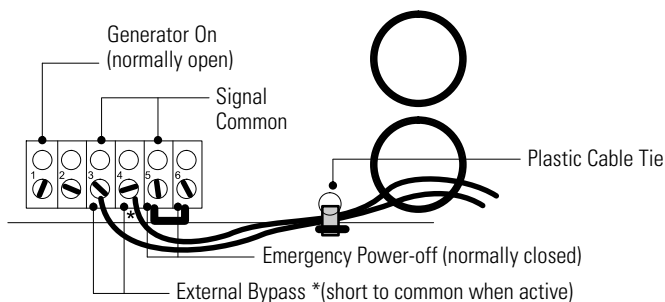

Figure 20. Input Control Signal Wiring (for MBB Bypass Switch)
13. If the bypass switch is an MBB style, notice the cable routed out of the left side of the bypass switch cabinet. Connect the red and black pair of wires (normally open) in this cable to terminals 3 and 4 as shown in Figure 20. (Do not connect the white and black pair of wires in this cable.)